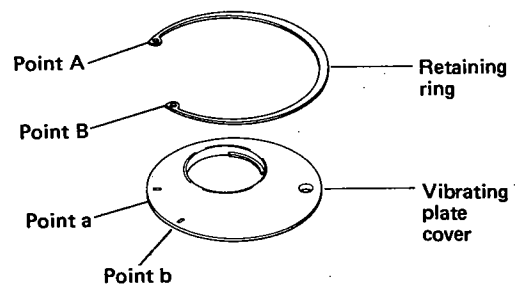

Fig. 6
- e. Both point A and B must be matched with point a and b of the retaining ring set position marks respectively. (Fig. 6)